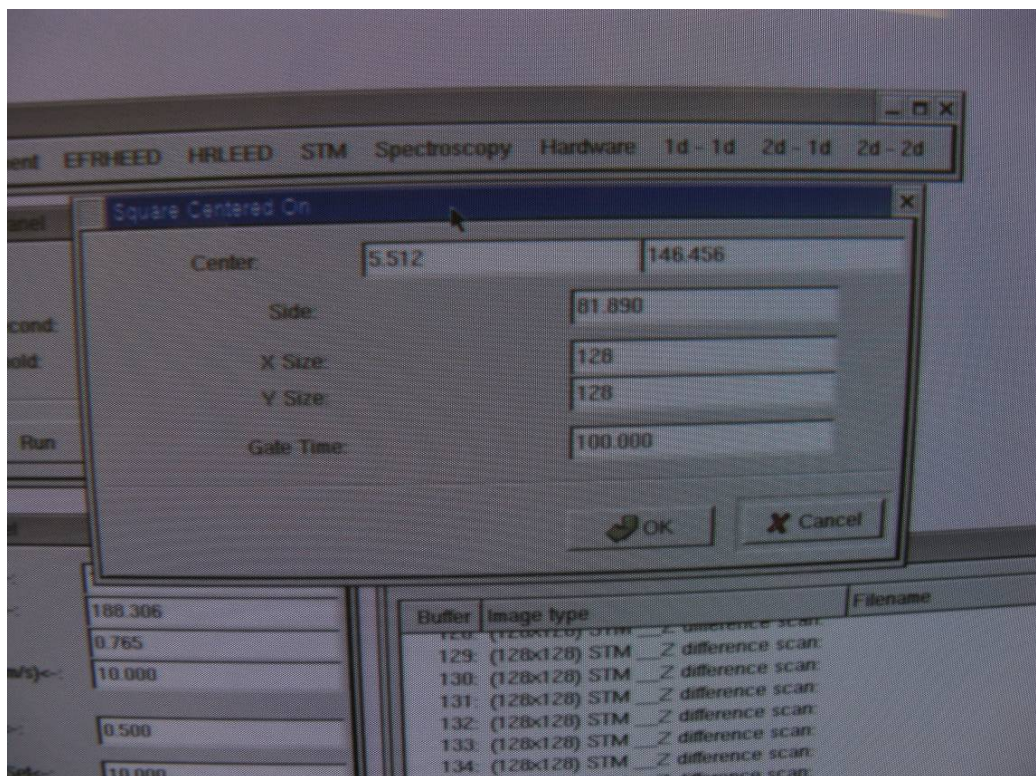

Figure 3.4 The 'Square Centered On' window.
15. Choose 'STM' -> 'Set Scan' -> 'Square Centered On' in the menu. In the opened window (Fig. 3.4), set the x and y coordinates of the 'Center' (in the unit of nm), the size of each 'Side' of the square (in the unit of nm, typically a few hundred), the 'X Size' and the 'Y Size' (number of pixels in the image, typically 128, 256 and so on) and finally the 'Gate Time' (related to the scan speed, typically 5msec for a general scan). Press 'OK' to finish the setting.